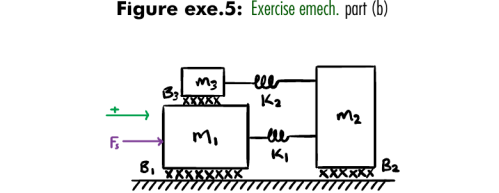

Figure exe.6: Exercise emech, part (c)
- The translational mechanical system of Fig. exe.6, force source, coordinate arrow in green.